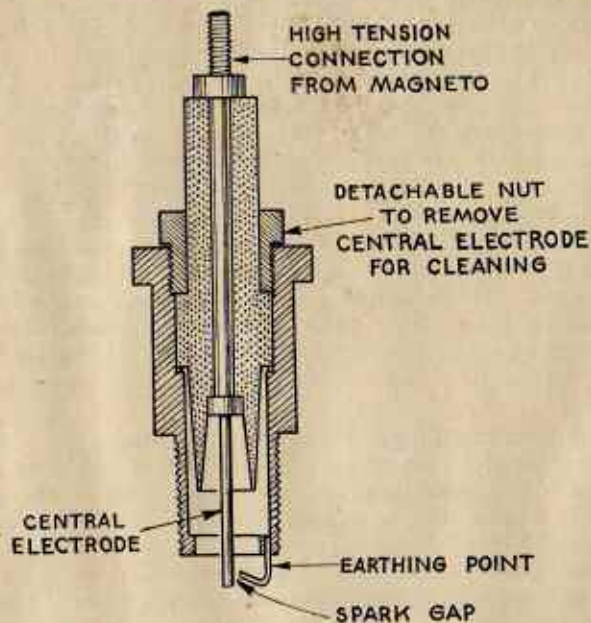

FIG. 12.
**The Magneto.**—For this purpose we use an instrument called a magneto which generates electric current and passes it to the cylinder head by means of an insulated wire conductor. At the cylinder head the wire is connected to a sparking plug. This latter item, as its name indicates, is a plug which can be screwed into a hole in the cylinder head having direct access to the combustion chamber (see Fig. 12).